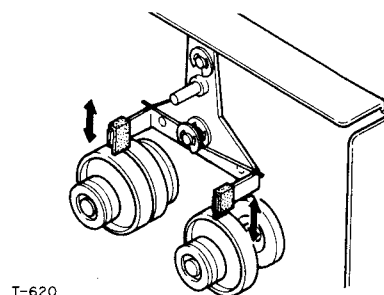

Fig. 5-6 Brake Tension Adjustment
4. If brake action is too "tight" or "loose", adjust by bending the arms of the Brake Bracket in or out as shown by the arrows in Fig. 5-6.